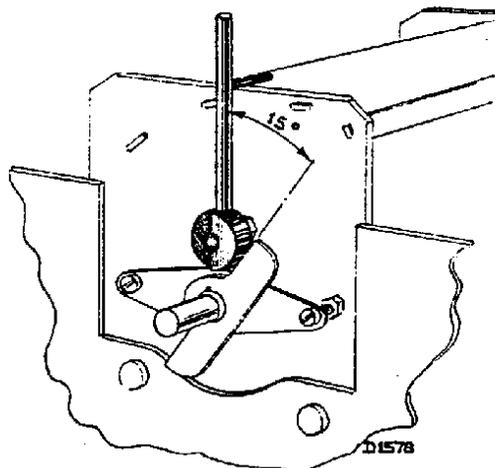

Fig. 4
1. Fit the  $15^\circ$  gauge (see fig. 4). Turn the variable condenser firmly against the gauge (smallest capacity).
12. Fit the  $15^\circ$  gauge (see fig. 4). Turn the variable condenser firmly against the gauge (smallest capacity).
16. Fit the  $15^\circ$  gauge (see fig. 4). Turn the variable condenser firmly against the gauge (smallest capacity).